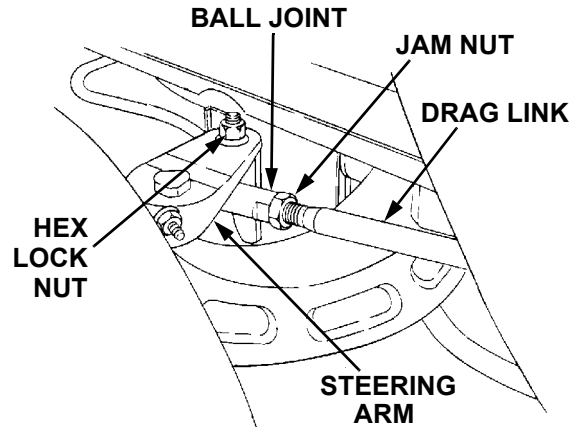

Figure 14
4. Loosen the jam nuts from the ball joints (See Figure 14).
5. Disconnect the front ball joints from the steering arms by removing the hex lock nuts (Refer to Figure 14). Manually move each wheel to achieve the required toe-in *and* equal D measurements.